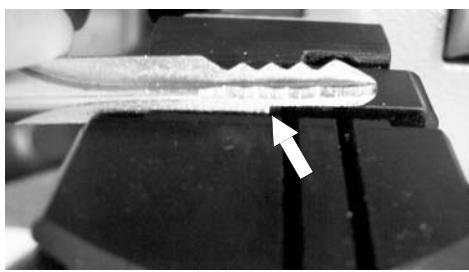
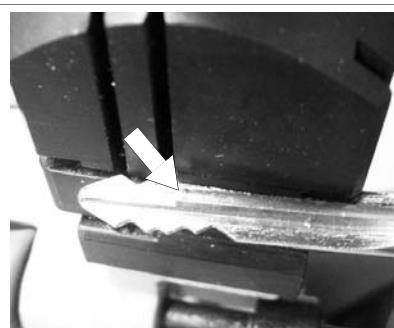
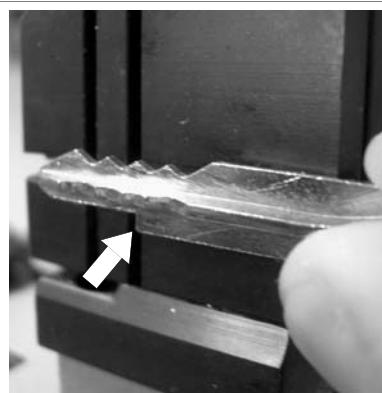

Fig. 23 - Key stop towards the INNER part of the clamp
Fig. 24 - Key stop UP
Fig. 25 - Key stop DOWN
- insert the grooved bar into the notch on the clamp according to the key stop (as shown in fig.23, fig.24 and fig.25).
- 3) Tighten the knob (F) to secure the key.